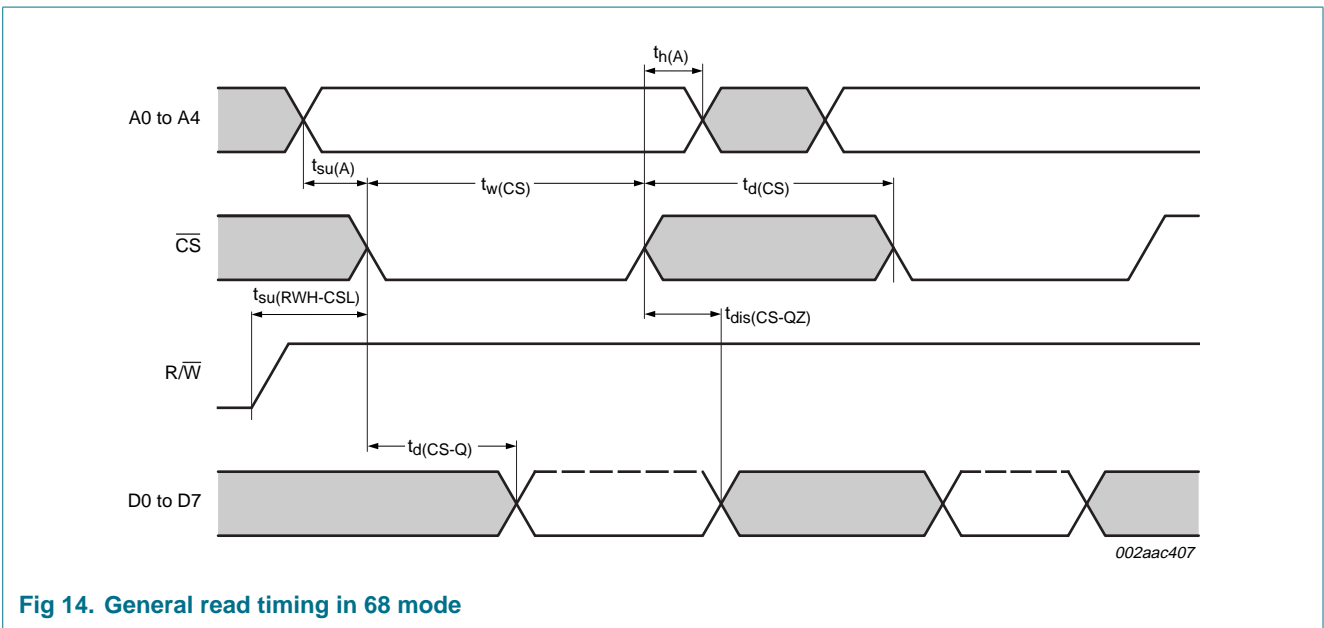

Fig 14. General read timing in 68 mode
- (2)  $\overline{CS}$  timing during a read cycle. See Figure 14.